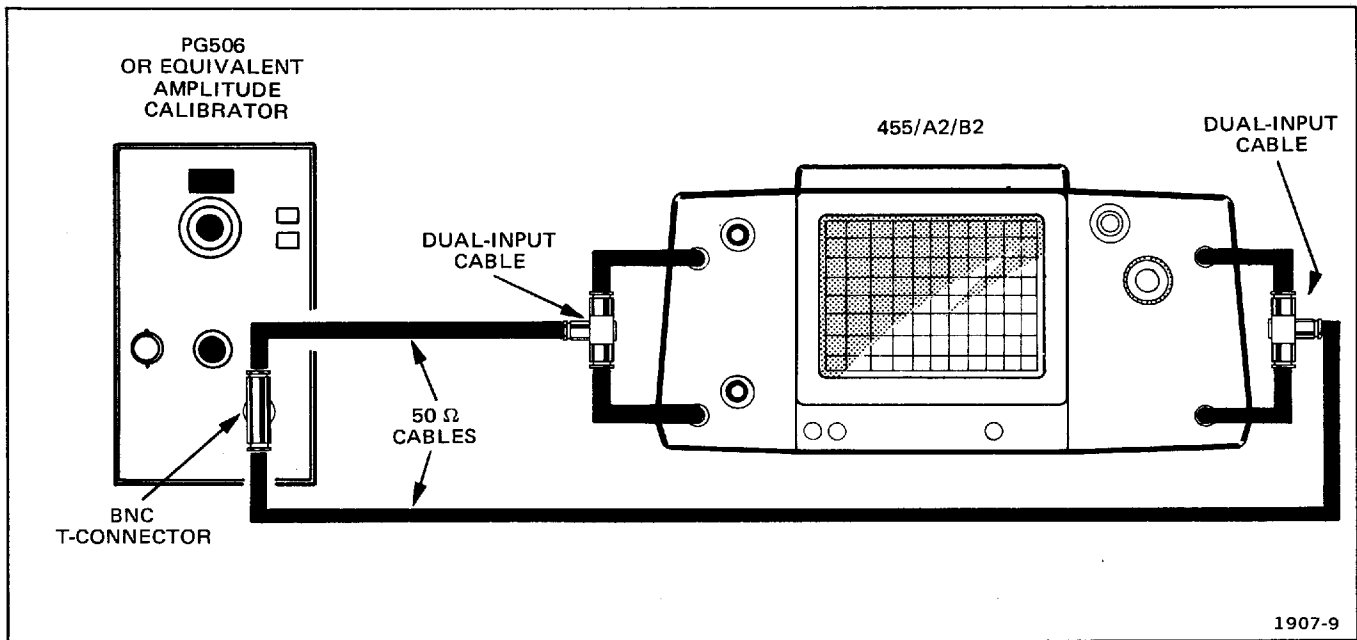

Fig. 3-1. Amplitude calibrator test setup.
a. Connect amplitude calibrator as shown in Fig. 3-1.